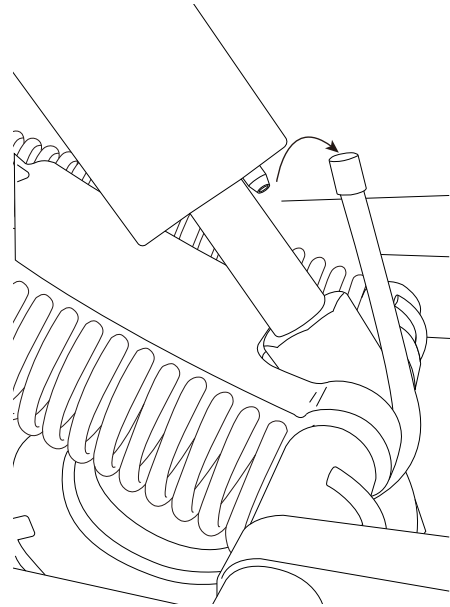

Figure 9. Detaching the vent line
- 5** Detach the vent line (see Figure 9).